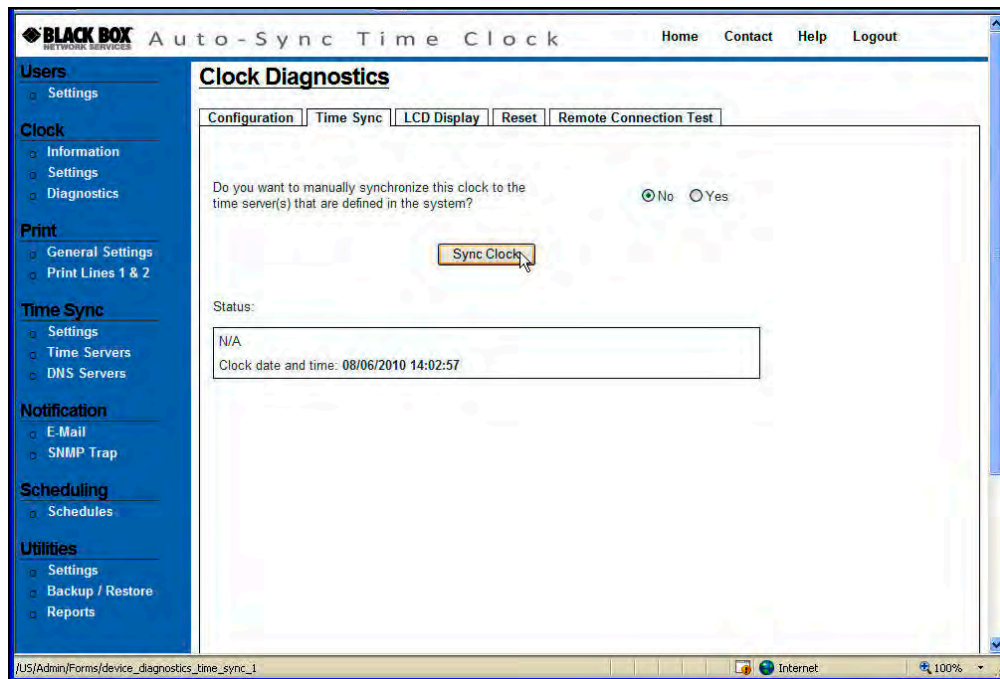

Figure 6-2. Manual Time Sync Clock.
1. Click on the **Diagnostics** link under Clock, and the **Clock Diagnostics** screen will appear. Then click on the **Time Sync** tab and the Time Sync screen will appear (see *Figure 6-2*).